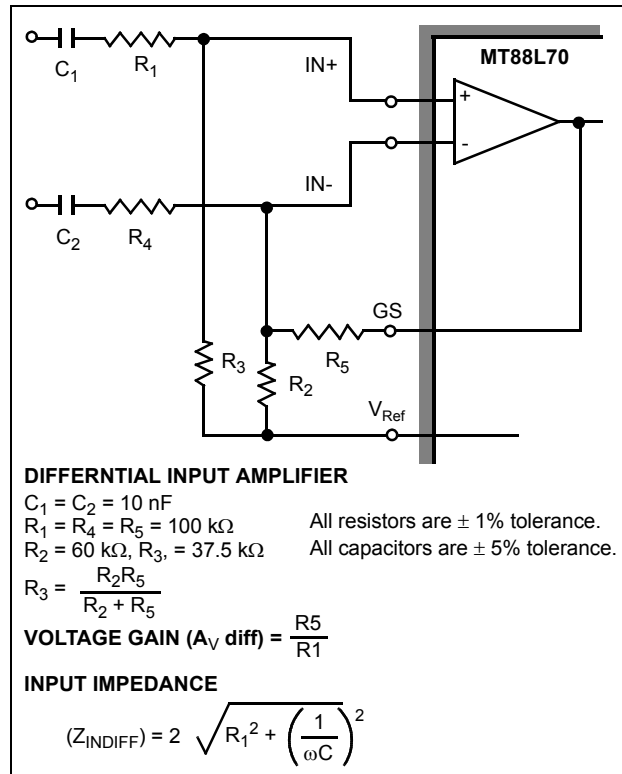

Figure 5 - Differential Input Configuration
The input arrangement of the MT88L70 provides a differential-input operational amplifier as well as a bias source (V_{Ref}) which is used to bias the inputs at mid-rail. Provision is made for connection of a feedback resistor to the op-amp output (GS) for adjustment of gain. In a single-ended configuration, the input pins are connected as shown in Figure 6 with the op-amp connected for unity gain and V_{Ref} biasing the input at $1/2V_{DD}$. Figure 5 shows the differential configuration, which permits the adjustment of gain with the feedback resistor R_5 .
A single-ended input configuration is shown in Figure 6. For applications with differential signal inputs the circuit shown in Figure 5 may be used.